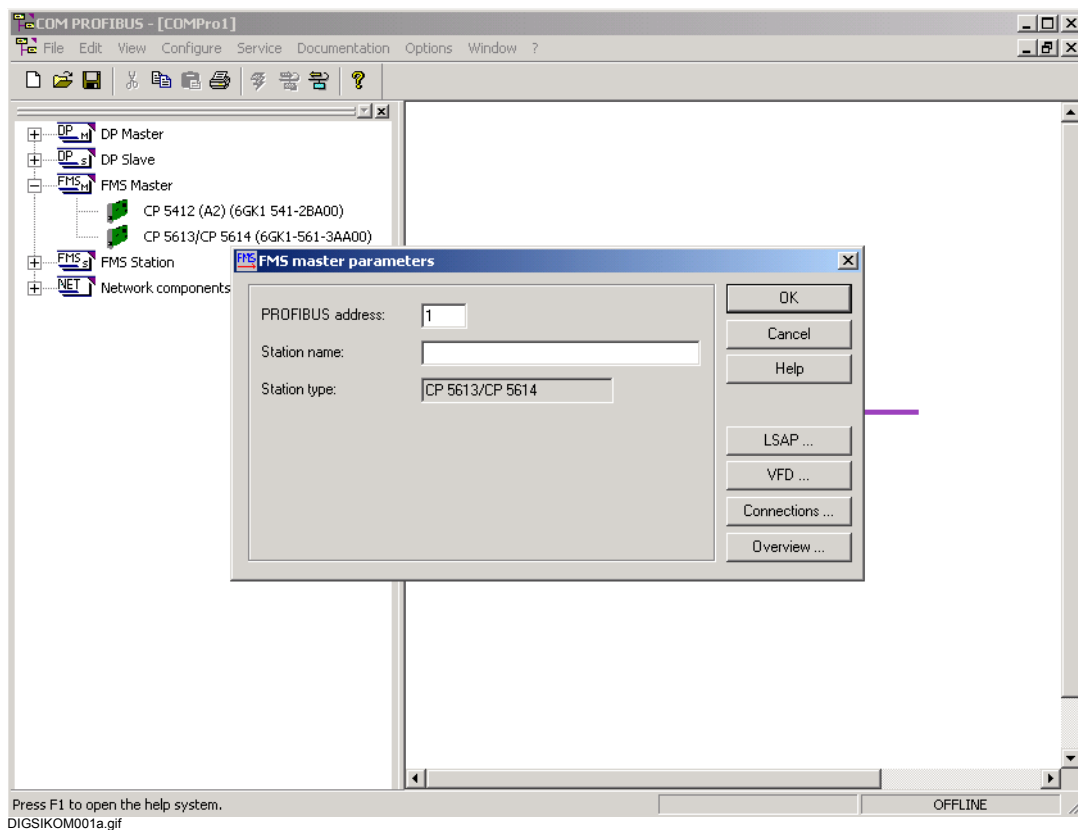

Fig. 7-17 New master system
- Drag & drop the FMS master CP5613/CP5614 from the selection list onto the working area (see Figure 7-17).